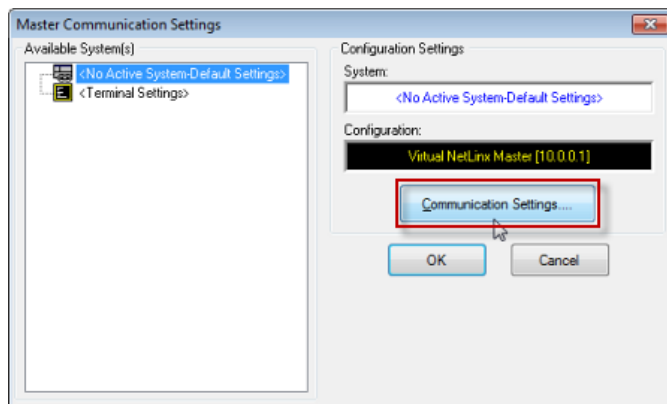

FIG. 3 Master Communication Settings dialog
2. This opens the *Master Communication Settings* dialog (FIG. 3).